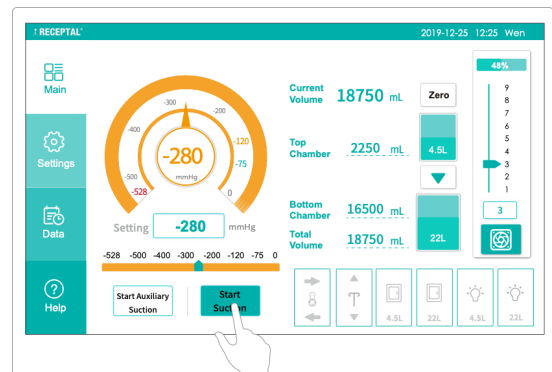

Figure 22 To Start Fluid Suction
- Tap the START SUCTION BUTTON to start fluid suction (Figure 22).